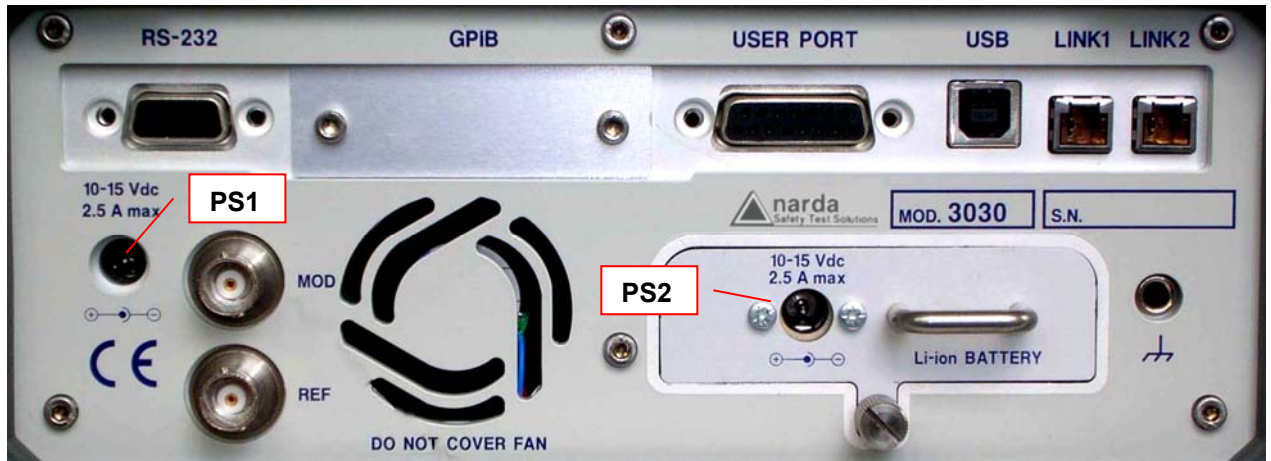

Fig. 1-4 PMM 3030 Rear Panel
- **Replaceable Li-Ion Battery (Fig. 1-4) (available only for the version 3030-02) with main Battery Charger connector**